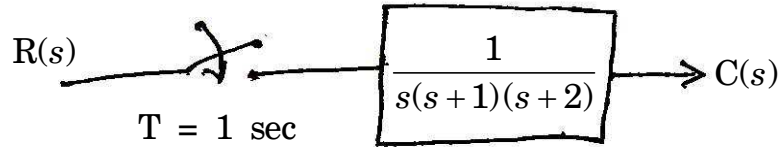

Fig. Q. 7(b)
- (b) Find pulse transfer function and impulse response for the system shown in Fig. Q. 7(b). [7]